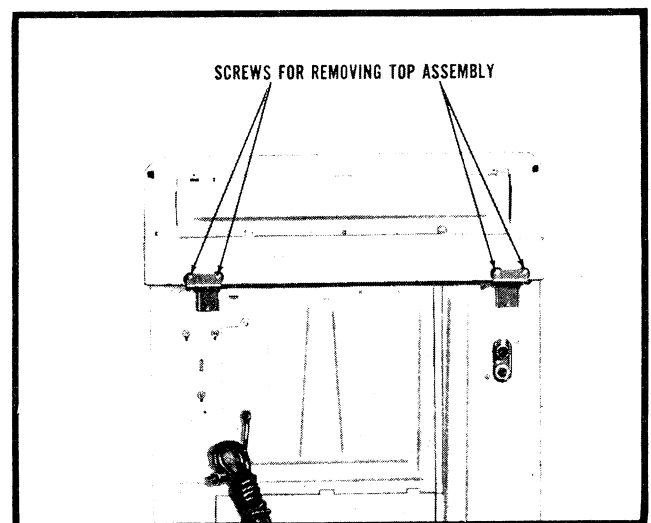

Figure 142
- Remove the top mounting screws at the rear of the machine, *Figure 142*.